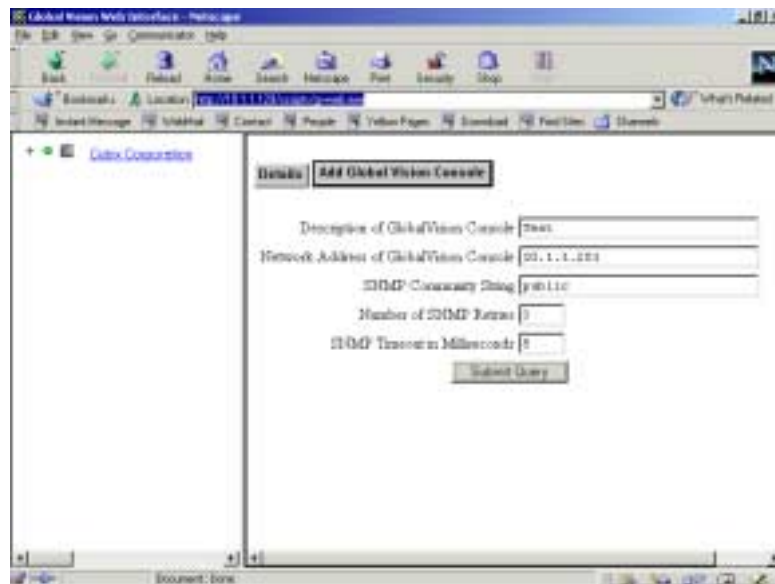

Figure 136 – GV Web, Enterprise Level – Add GlobalVision Console query screen
- ◆ **Add GlobalVision Console** will provides a query form. You must type in the IP or IPX address of the GlobalVision Console to be added. The console will appear in the navigation frame at the next refresh ("refreshes" occur approximately every 30 seconds). See Figure 136.